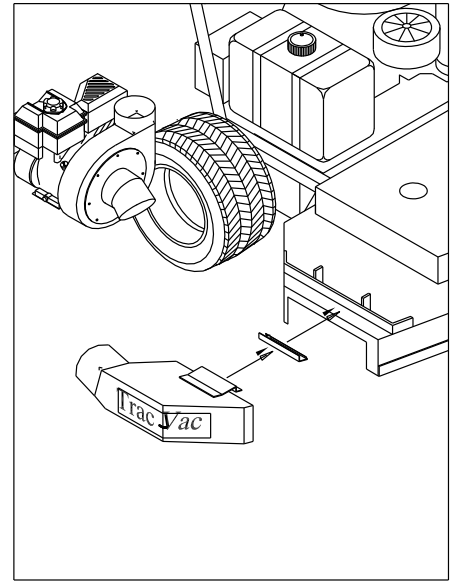

Fig. 12
12. Attach chute to mower deck with pins or bolts provided. If necessary, trim off excess hose. Tighten clamps. (Fig. 12)